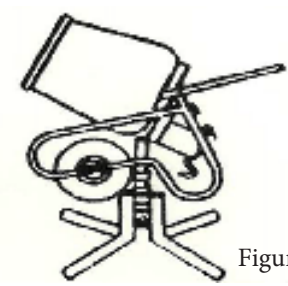

Figure 6. Unit ready for mixing
5. Once mixer has been tilted upright onto the stand, the mixer should be tipped back into mixing position before operating. (Figure 6)